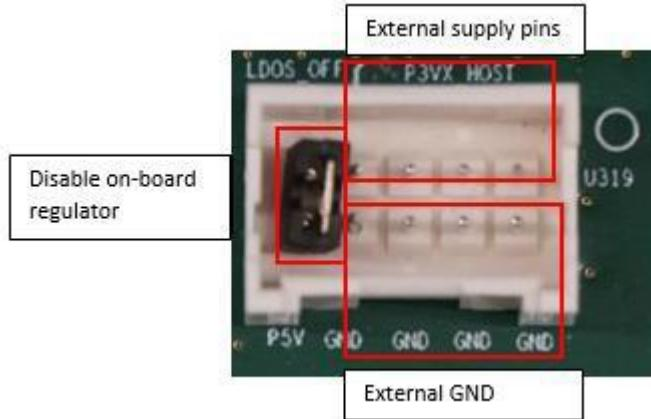

Figure 1: External Power Source
- Apply external 3.3 V at P3VX\_HOST pins of U319 connector, as shown in the Figure 1.